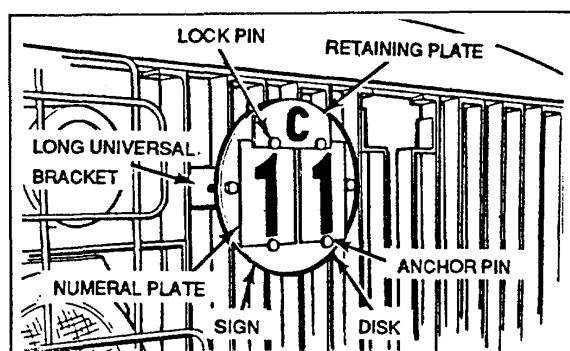

Figure 22. Vehicle weight classification sign installed.
e. In usages where the classification number may change, a sign kit will be utilized which consists of a 9-inch metal disk, a retaining plate, and two sets of five different numeral plates. By installing the retaining plate, the numeral plates will be locked in place. The sign has black numerals on a green background and a black C on the top of the retaining plate, Figure 22.
3. With the bracket in a vertical position, insert it between two bars of the brush guard at the desired location. With one hand, reach behind the brush guard and adjust the bracket to a horizontal position. With the other hand, install another bolt (1-3/4 inches long), washer, and nut. Tighten both bolts, but apply only enough torque to secure the sign to brush guard. Excessive torque will cause the sign to bend. Figure 22 shows the sign installed on brush guard.